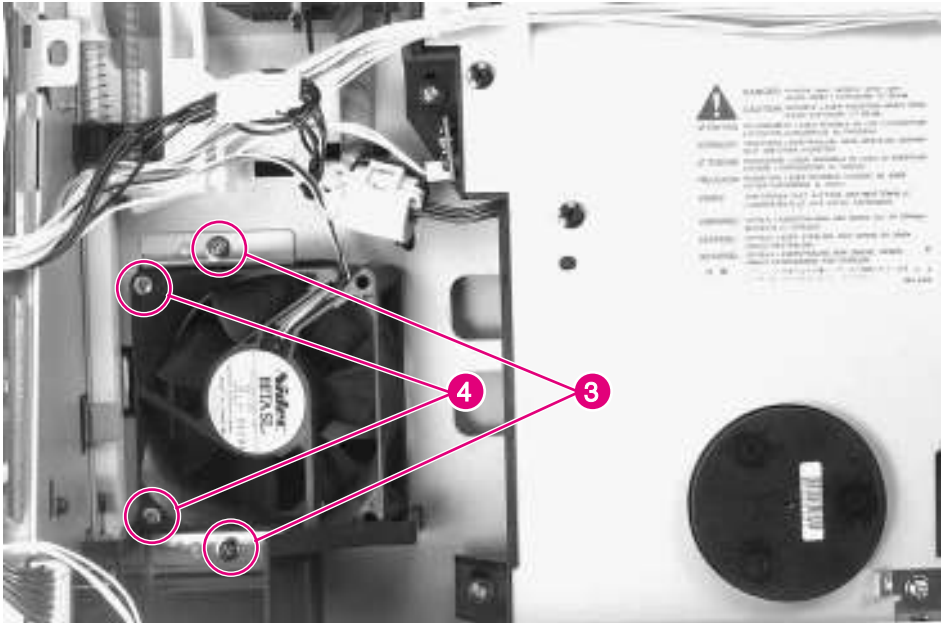

Figure 6-20 Fan 1, Laser/Scanner (2 of 2)
- 2 Remove 2 screws (figure 6-20, callout 3), and lift the fan and bracket assembly out of the chassis.
- 3 Remove 2 screws (figure 6-20, callout 4) to separate the fan motor from the bracket.